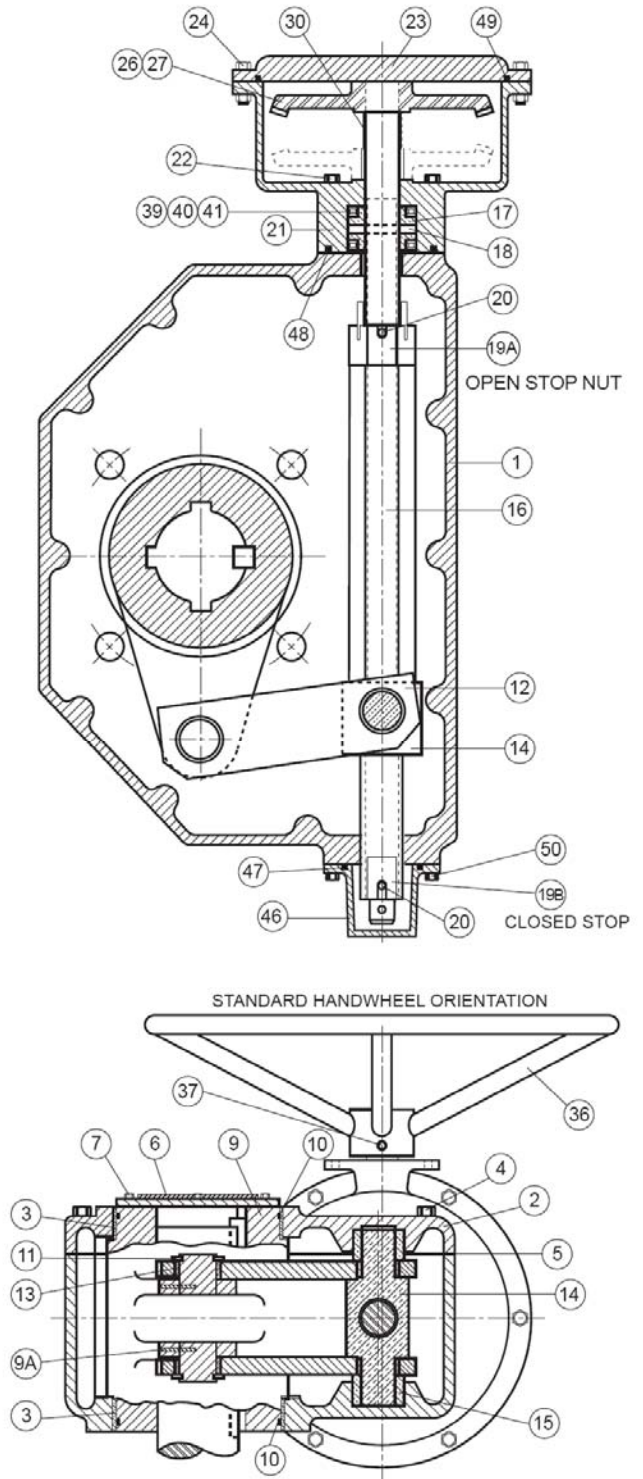

FIGURE 9. TRAVELING NUT ACTUATOR CONSTRUCTION
TRAVELING NUT ACTUATOR MAINTENANCE: A typical traveling nut actuator is shown in Figure 9 and consists of a threaded nut (12) which travels back and forth on a threaded stem (14). The stem is lubricated with EP2 grease in a cast iron housing (1). The nut, in